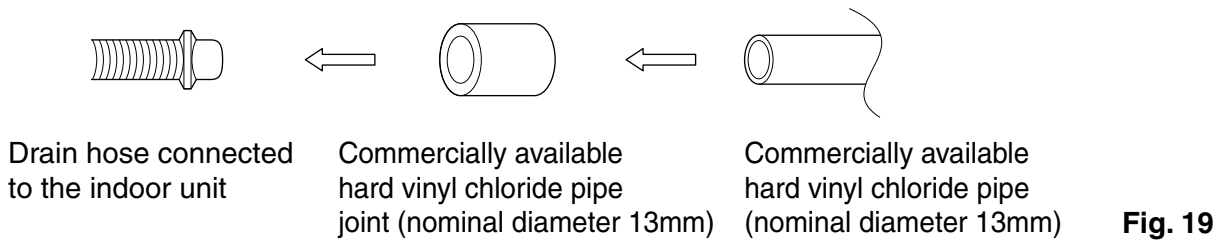

Fig. 19
- When directly connecting a hard vinyl chloride pipe joint (nominal diameter 13mm) to the drain hose connected to the indoor unit (i.e. for embedded piping, etc.), use a commercially available hard vinyl chloride pipe joint (nominal diameter 13mm). **(Refer to Fig. 19)**